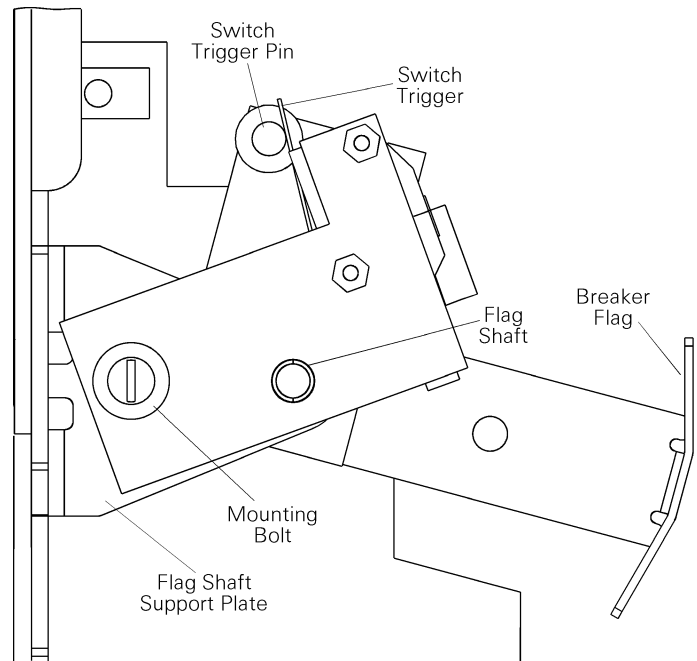

Figure 8-29. Remote charge-indication switch side view.
- b. Rotate the switch until the switch trigger is fully depressed against the trigger pin, as illustrated in Figure 8-29.